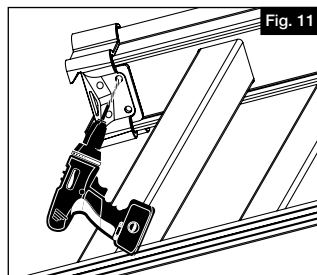

Fig. 11
- c. For top rail, pre-drill two holes underneath bracket with a  $\frac{5}{32}$ " drill bit (2 per bracket) (Fig. 11).